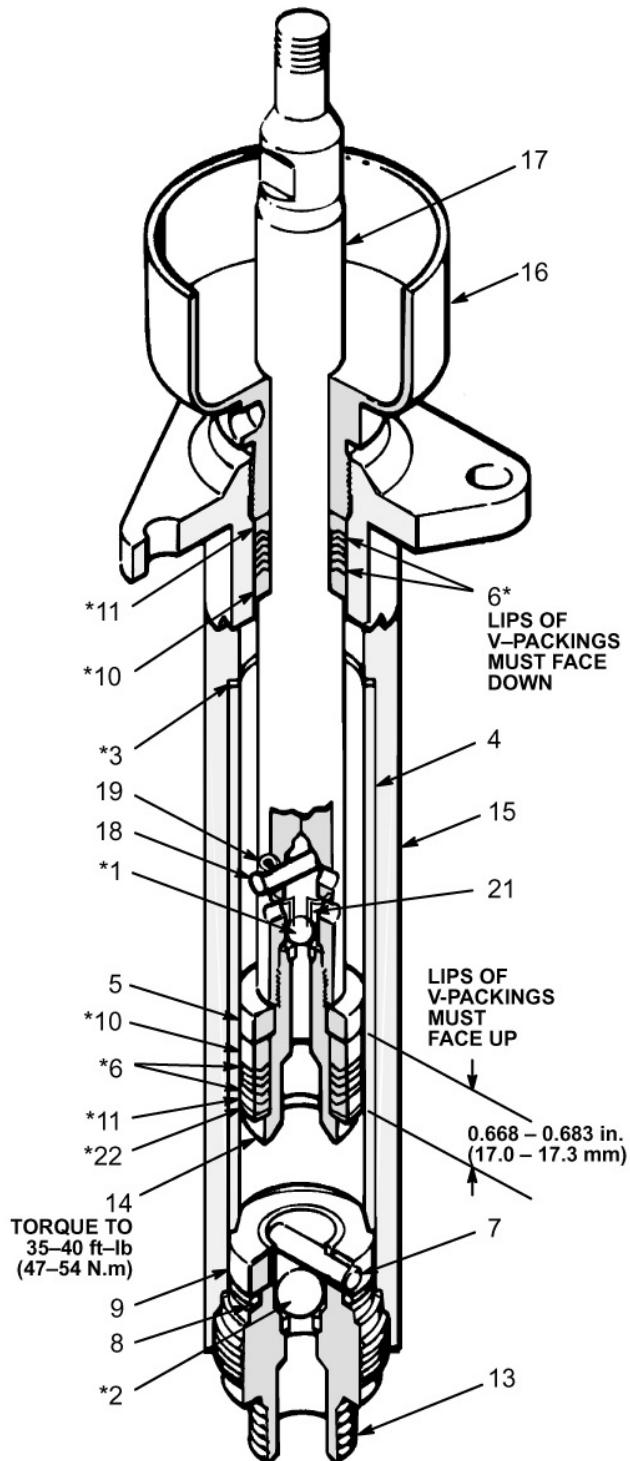

Fig 2
Unscrew intake valve housing (13) from pump housing (15). Remove pin (7), ball (2), retainer (9) and o-ring (8). See Fig 2. If seat in valve housing (13) is chipped or worn, replace housing.
Install male gland (10\*), five v-packings (6\*) *with the lips facing down*, and female gland (11\*) in throat of pump housing (15). See Fig 2. Install packing nut (16) loosely.
Install up to six shims (22\*) on the piston, to attain a packing stack height of 0.668–0.683 in. (17.0–17.3 mm). Install the female gland (11\*), four v-packings (6\*) *with the lips facing up*, male gland (10\*) and packing retainer (5) on the piston (14). Verify that the packing stack height is correct. See Fig 2.